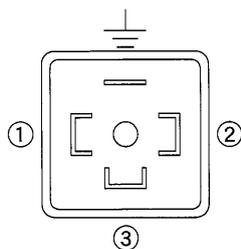

Fig2.
The connection of the electric wire connects it after removes a cable gland body. (Please refer to the item 6 of manual) Please refer to the Fig.2, connection diagram, for each use connecting wiring. Please be careful about the following matters;